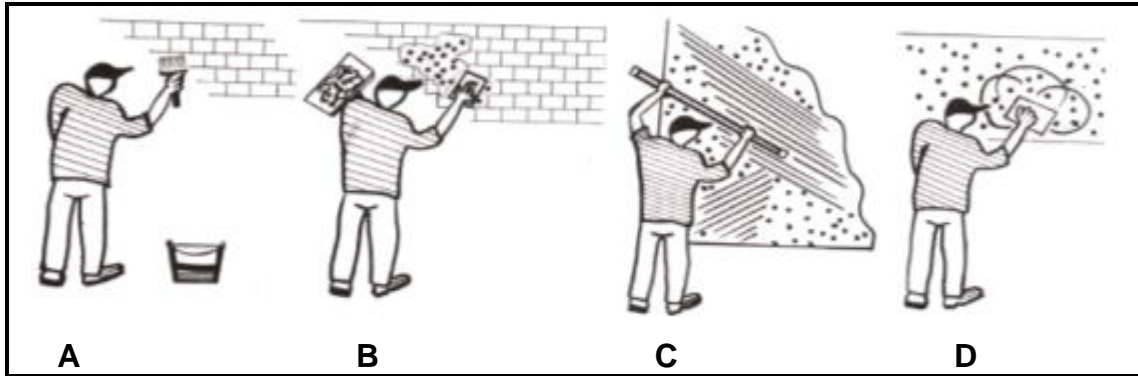

FIGURE 5.1
5.1 FIGURE 5.1 below shows a worker plastering a wall. Study the drawing and answer the questions that follow.